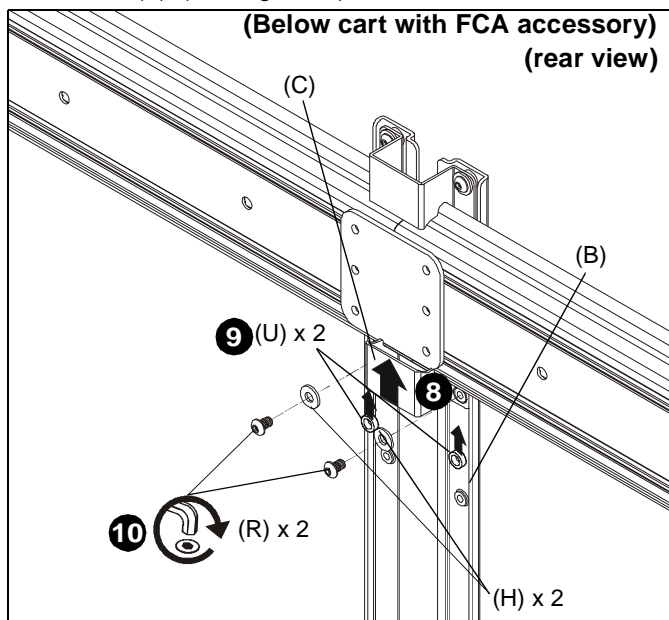

Figure 11
8. Slide second shelf bracket (C) underneath head assembly, lining up holes on shelf bracket (C) to holes on main bracket (B). (See Figure 11)
9. Slide two 1/2" spacers (U) in between shelf bracket (C) and main bracket (B). (See Figure 11)
10. Use two 1/4-20 x 7/16" button head cap screws (R) and two large washers (H) to secure shelf bracket (C) to main bracket (B). (See Figure 11)